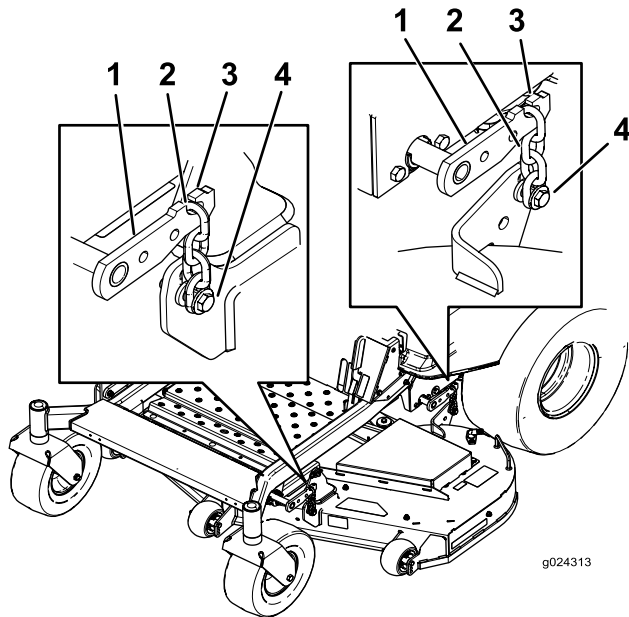

Figure 64
3. Remove the chains from the hooks on the deck-lift arms (Figure 64).
6. Lift the rear of the mower deck and attach the chains to the rear lift arms (Figure 64).
7. Attach the front chains to the front lift arms (Figure 64).